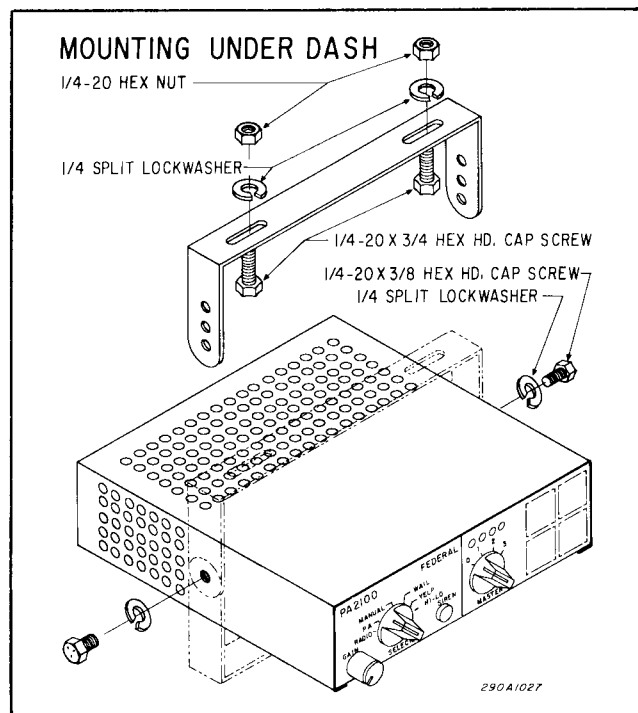

Figure 3-1. Installation of Siren Under the Dash.
Mount the siren in a location that is convenient and comfortable to the operator and where it will not interfere with the safe operation of the vehicle. Keep visibility and accessibility of controls in mind when choosing a mounting location. To install the bracket under the dash, determine the mounting location and proceed as follows (See figure 3-1):
C. Secure the mounting bracket to the dash using two each of the following: 1/4 - 20 x 3/4 hex head screws, 1/4" split lockwashers and 1/4 - 20 nuts as shown in figure 3-1.